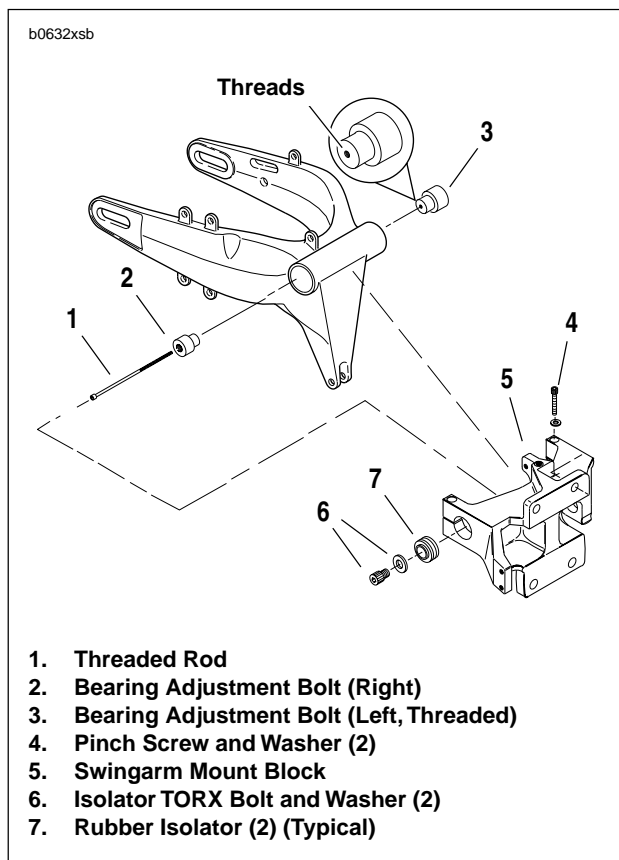
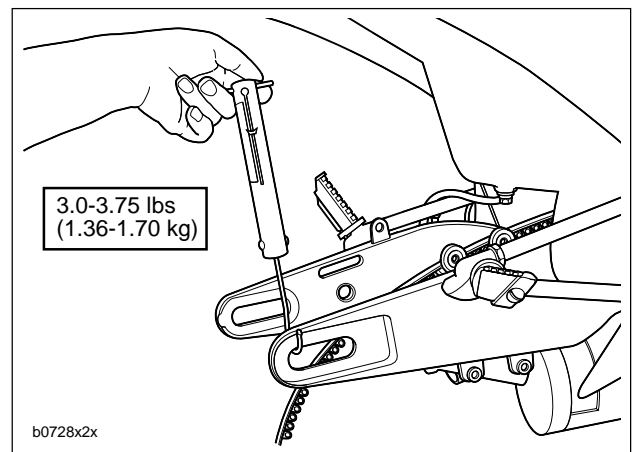

Figure 2-73. Swingarm Assembly
Figure 2-78. Checking Preload
14. See Figure 2-73. Remove left and right isolator bolts and washers (7).
See Figure 2-73. The left side bearing adjustment bolt (3) has additional internal threads.
- Apply LOCTITE THREADLOCKER 222 (purple) to the threaded rod (1).
- Insert the rod through the right side bearing adjusting bolt (2).
- Install and tighten left bearing adjustment bolt (3) (with internal threads) on left side of swingarm.
- Tighten the left pinch screw (4) on the swingarm mount block (5). Do not tighten the right side pinch screw at this time.
- See Figure 2-73. Align **new** swingarm between posts on swingarm mount block (5).
- Tighten left side swingarm pinch screw (4) to 18-20 ft-lbs (24-27 Nm).
- Install threaded rod (1).
- Insert threaded rod through right side bearing adjustment bolt (2) into threads on left side bolt (3).
- Check swingarm preload using a scale as shown in Figure 2-78. Preload should be 3.0-3.75 lbs (1.36-1.70 kg). If preload does not meet specifications, tighten or loosen threaded rod and recheck.